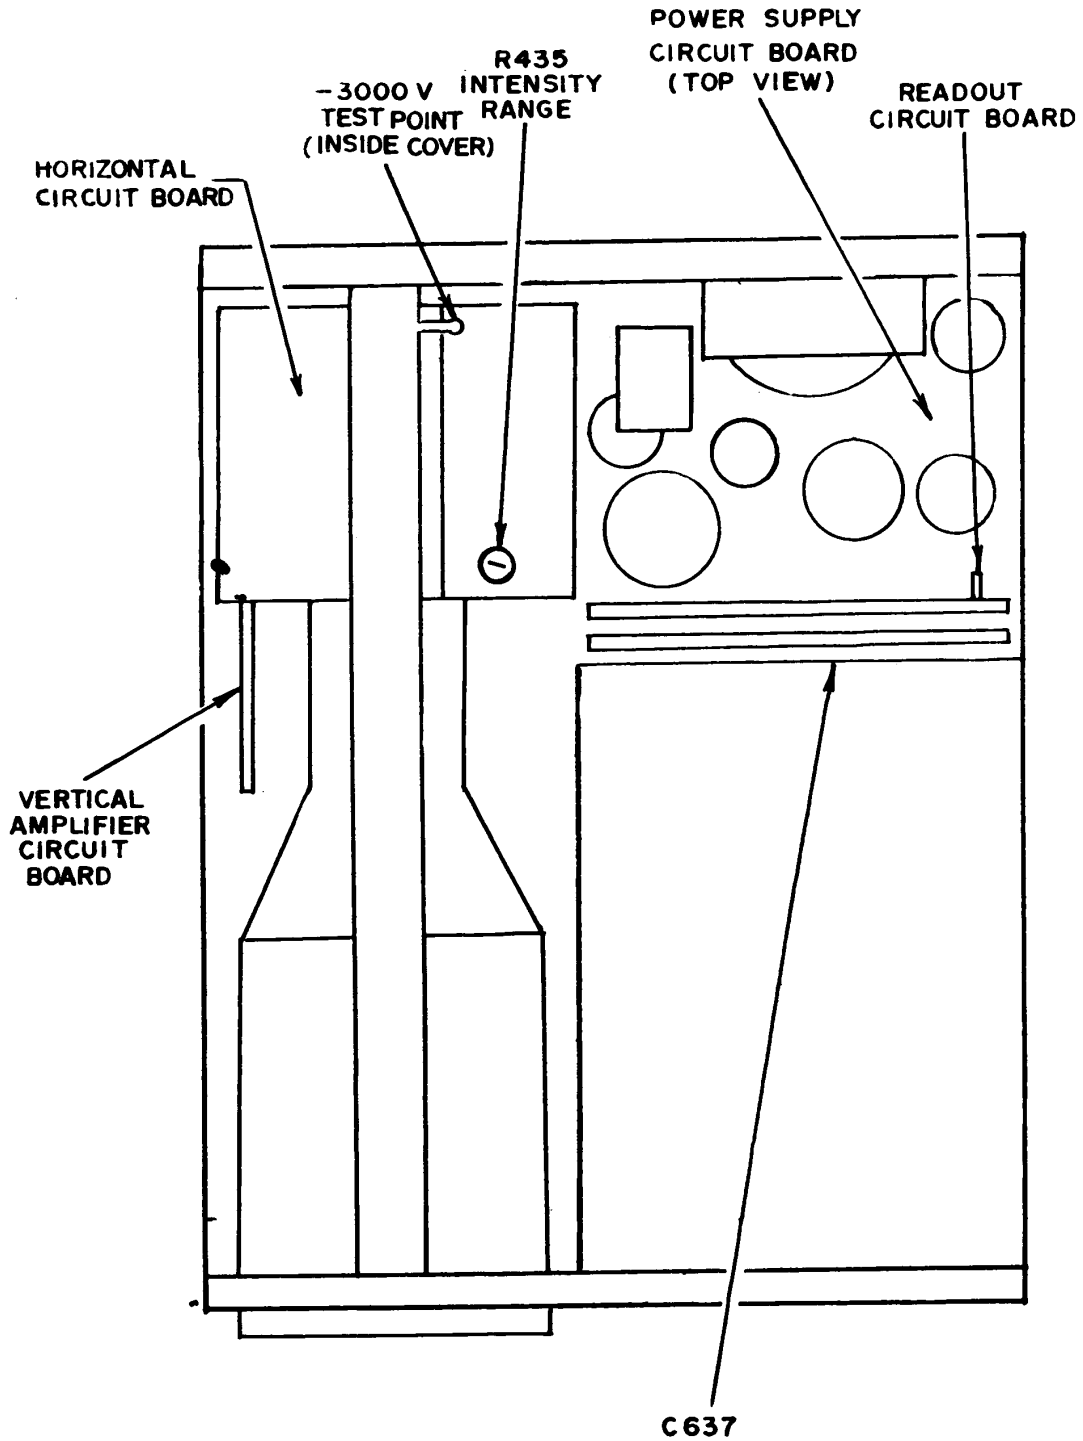

Figure 1. TI circuit board locations.
- a.** Refer to figure 1 for location of TI circuit boards.
b. Adjustment. Turn TI INTENSITY control fully ccw and adjust INTENSITY RANGE R435 (fig. 1) until trace is just visible and then readjust until trace is just extinguished.